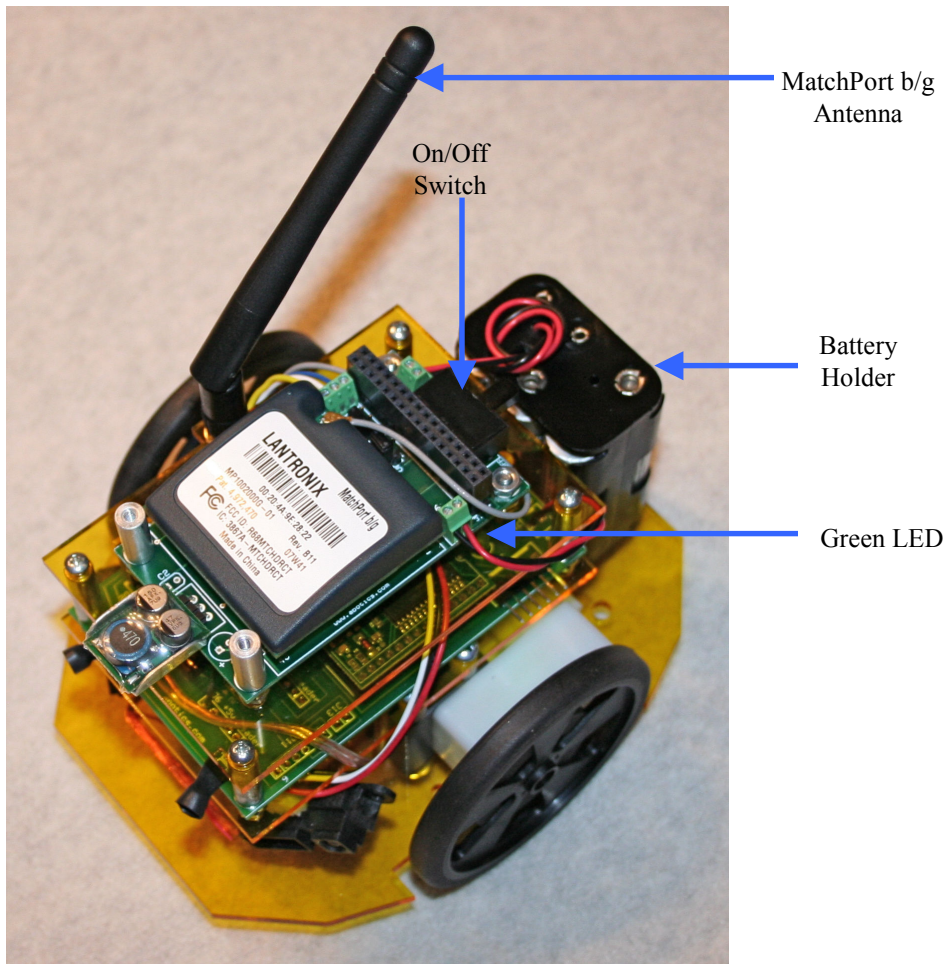

Figure 49. OPEN-ROBOT.
In figure 49 you can see the robot's on/off switch and the (6)-AA battery holder. Before we get started, remove the battery holder by unsnapping it from the robot's base plate. Firmly hold the robot with one hand while pulling the battery holder. Now load (6)-AA batteries into the holder while observing the proper insertion orientation. The negative (-) end of the each battery must be inserted such that it makes contact with the corresponding spring on the holder. ***Failure to do this will damage the robot's controller board.*** We recommend using 15-minute rechargeable AA-batteries, however, you can use regular